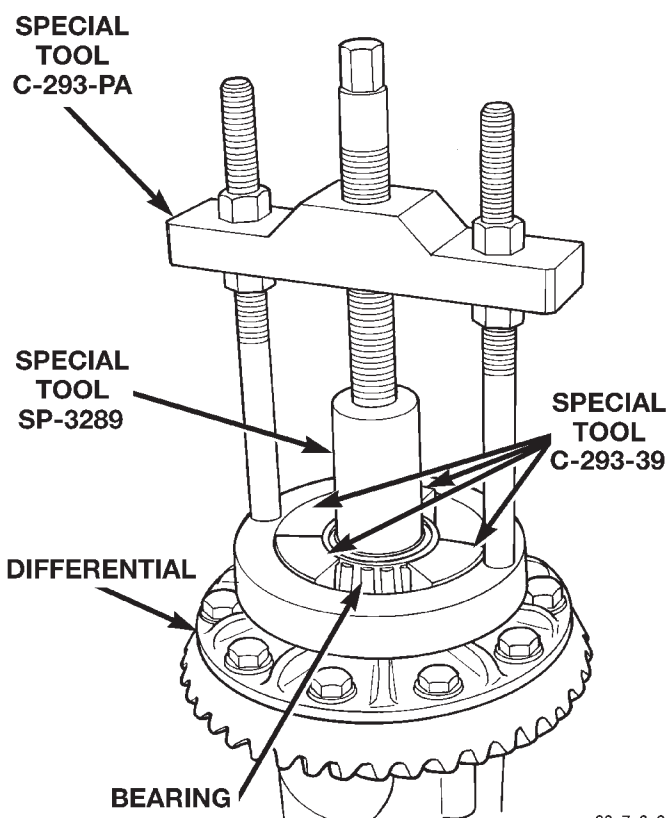

Fig. 20 Differential Bearing Removal
- (1) Remove differential from axle housing.
- (2) Remove the bearings from the differential case with Puller/Press C-293-PA, C-293-39 Blocks, and Plug SP-3289 (Fig. 20).